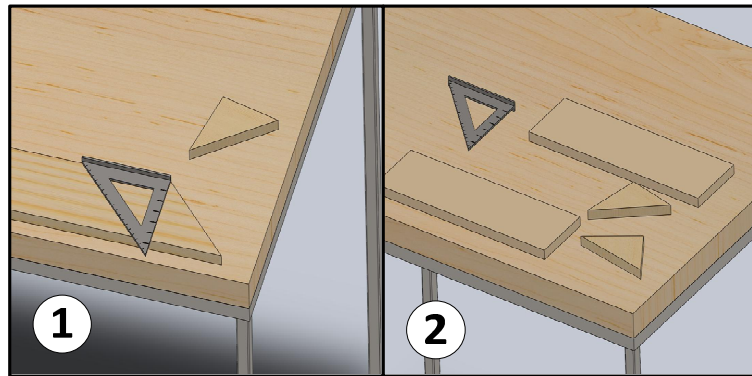

Figure 5: (1) Use the speed square to mark out the next gusset.
Make a small mark at the edge of the board 4 3/4" from the end as shown in Figure 5(1). Then use the speed square to draw the 45° needed for the gusset as shown in Figure 5(2). If you make your mark at exactly 4 3/4" the line should go right through the corner of the board Figure 5(3).
- C. Now with the first gusset cut, a 45° angle is already cut on the board. Use the speed square to draw the next gusset as shown in Figure 5.